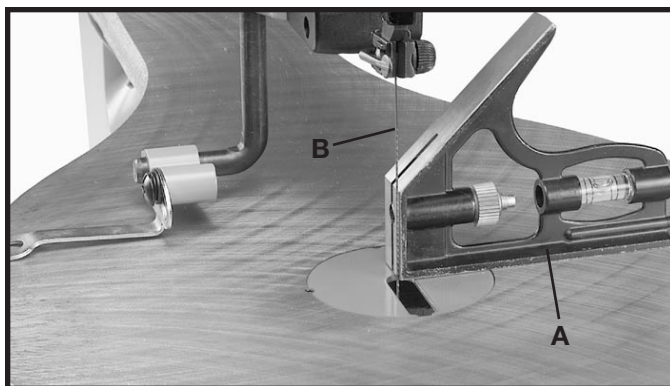

Fig. 13
2. Using a square that includes a level, check to see if the table is level (A) Fig. 13, and is 90° to the saw blade (B), as shown.